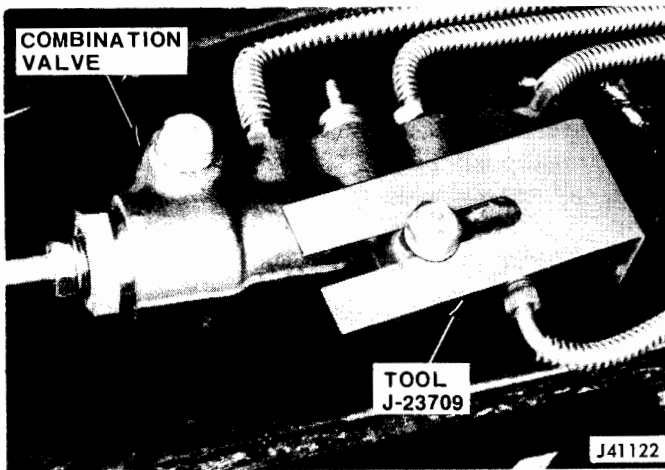

Fig. 9-11 Metering Section Hold-Open Tool Installed
- (1) Clean any accumulated dirt from master cylinder cover.
- (2) Remove master cylinder cover.
- (3) Fill master cylinder if required and reinstall cover.
- (4) Hold combination metering valve open as follows: On Cherokee, Wagoneer, and Truck models, loosen front mounting bolt on combination valve and insert slotted end of Tool J-23709 under mounting bolt. Push in on metering valve pin to open it and retighten the mounting bolt to hold Tool J-23709 in place (fig. 9-11). On CJ models remove the brake warning switch wire, switch terminal, plunger and spring from the combination valve.
- (5) Bleed brake system in following sequence:
(5) Hold combination metering valve open. On Cherokee, Wagoneer, and Truck models, install Tool J-23709 as described in step (4) of Manual Bleeding Procedure (fig. 9-11). On CJ models, remove the brake warning switch wire, switch terminal-plunger-and spring from the combination valve before bleeding the system.
(6) Bleed brake system in following sequence: